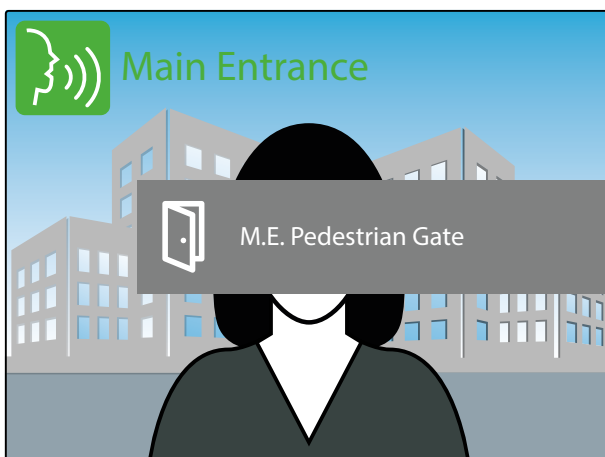

Fig. 32 Activating the door relay
- Press the  button to open the door (Fig. 32)*.
- To open the door press the  button (Fig. 32)** while to close the connection hang up the handset